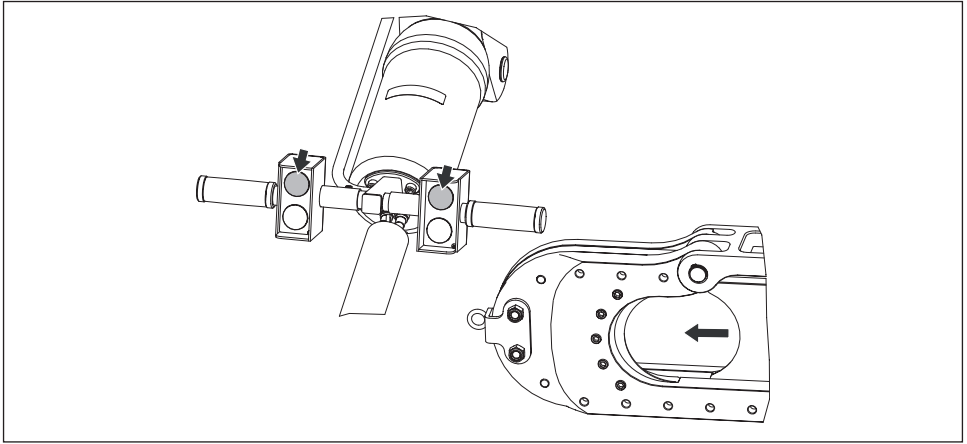

Figure 9, Operation - Advance/Cut
- Press and hold both **advance** push buttons to advance the piston and slide the moving blade forward. See Figure 9.